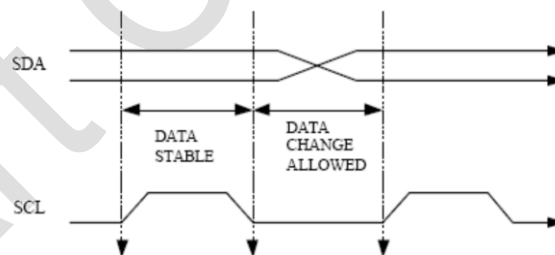

Figure 11. Valid Data
- Valid data: The data on SDA line must be stable during high period of SCL. MSB is always transferred first for each byte. LSB of the first byte is Read / Write control bit. (Refer to Figure 11)